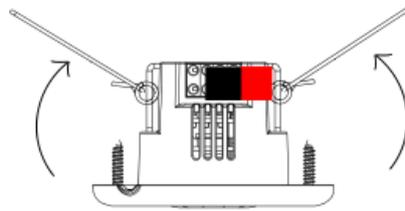

Figure 8
**(4) Ceiling – mounted - See Figure 8 – 10**